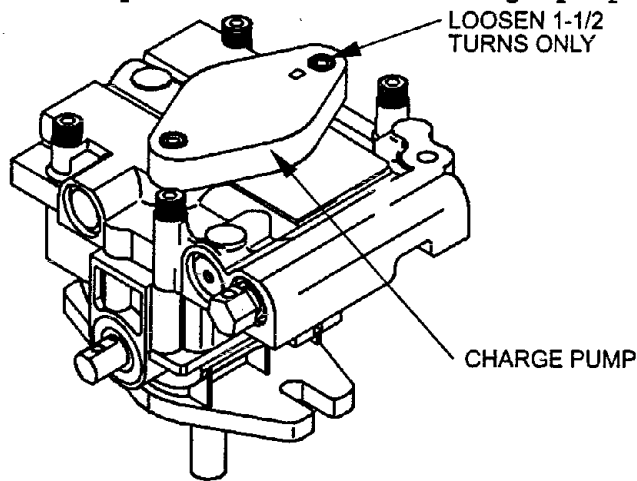

FIG. 6
- f) If either drive wheel does not rotate, one or both of the charge pumps (located on the top of the main pump as shown in Figure 6) may have lost their "prime". Refer to Section 5.1.10.
The critical area for purging air from the hydraulic system is between the oil reservoir and each charge pump located on the top of each variable displacement pump. (See Figure 6).
- d) To "prime" charge pump, loosen two hex socket head capscrews (shown in Figure 6) 1-1/2 turns only. **Make sure engine is not running.** Lift the charge pump housing upward and wait for a steady flow of oil to flow out from under the housing. Retighten the capscrews. Do this for both pumps.